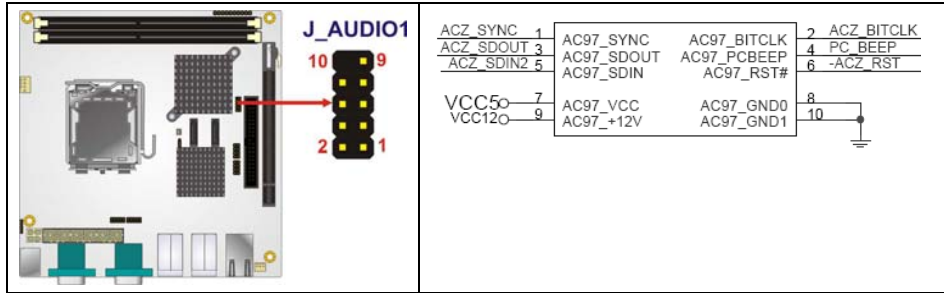

Figure 4-2: Audio Connector Pinouts
- CN Location:** See **Figure 4-2**